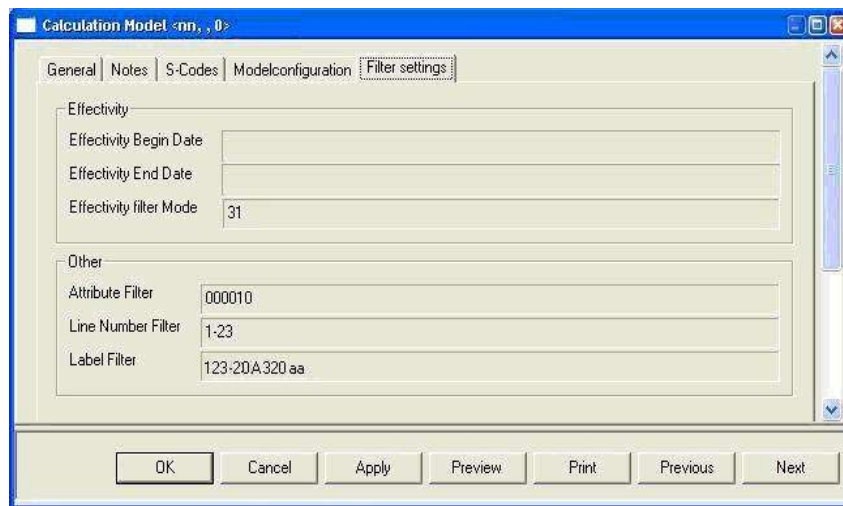

Figure 87: Contextual Menu on the Project Node Level
- 7) To view the label filter, click **Filter Settings** tab. Please refer to the Figure 87.